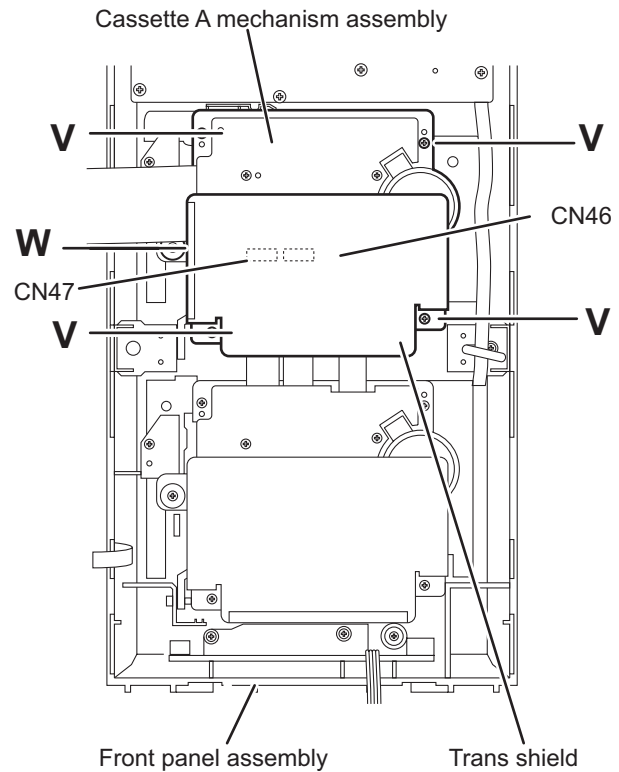

Fig.23
3.1.16 Removing the cassette A mechanism assembly (See Fig.23)